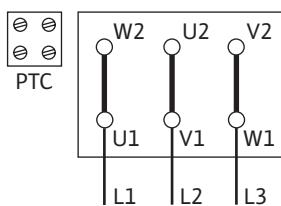
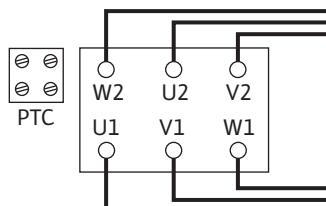

Fig. 5: Y-Δ start
Fig. 6: Δ connection
- The mains connection is dependent on the motor power P2, mains voltage and activation type. Refer to the following table and Fig. 5 and Fig. 6 for the required connection of the connecting bridges in the terminal box.
| Y-Δ-start (standard)   | Remove connecting bridges (Fig. 5). |
| Start via soft starter | Δ-connection (Fig. 6)               |